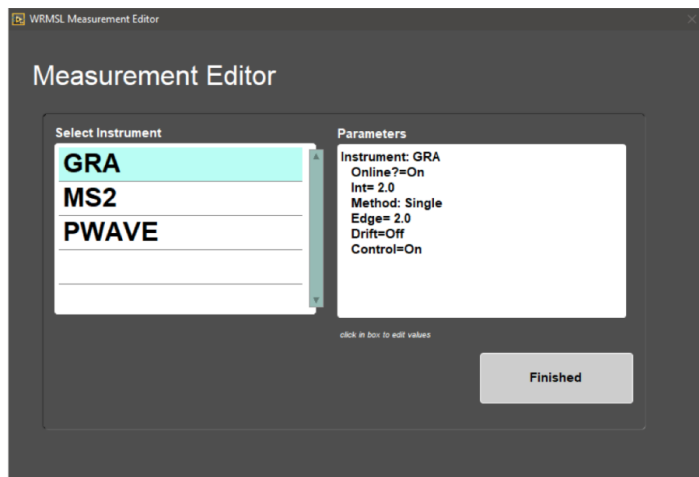

Figure 2. Instrument Parameters window.
2. In the **Measurement Editor** window, select the **Instrument** you wish to configure and then click in the **Parameters** window (Figure 2).